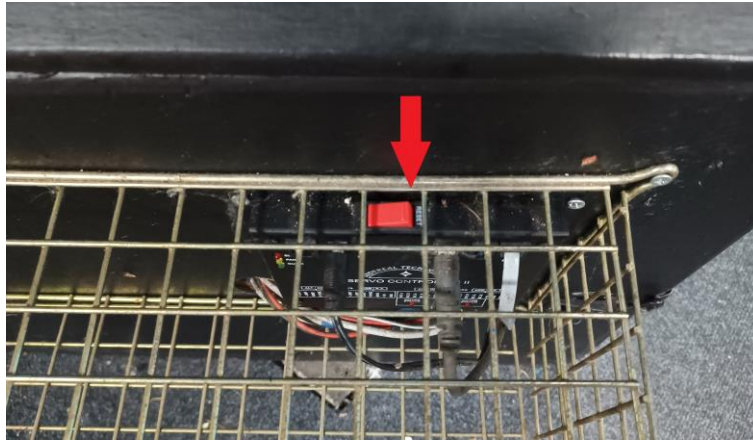

Fig. 25: Telescope control unit (arrow pointing to OFF)
6) Switch OFF the telescope control unit (square black unit located on the back of telescope) using the RED rocker switch into the opposite position (See Fig. 25).